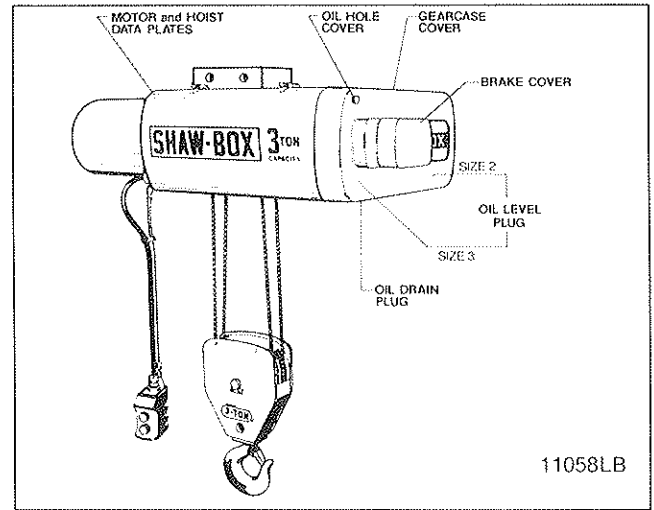

Figure 1-1. Hoist Arrangement.
b. To determine the size of your hoist, measure the width of the hoist at the gearcase cover (see Figure 1-1). If the width is 23¾ inches the hoist is a Size 2 or DMR-1; if 34¼ inches, it is a Size 3 or DMR-2 thru DMR-5.
3-2. Check oil level. Remove plug located on side of gearcase adjacent to the embossed words "OIL LEVEL." (See Figure 1-1.) When properly filled, oil should be level with bottom of tapped hole. Fill to this level with DEXRON automatic transmission fluid.